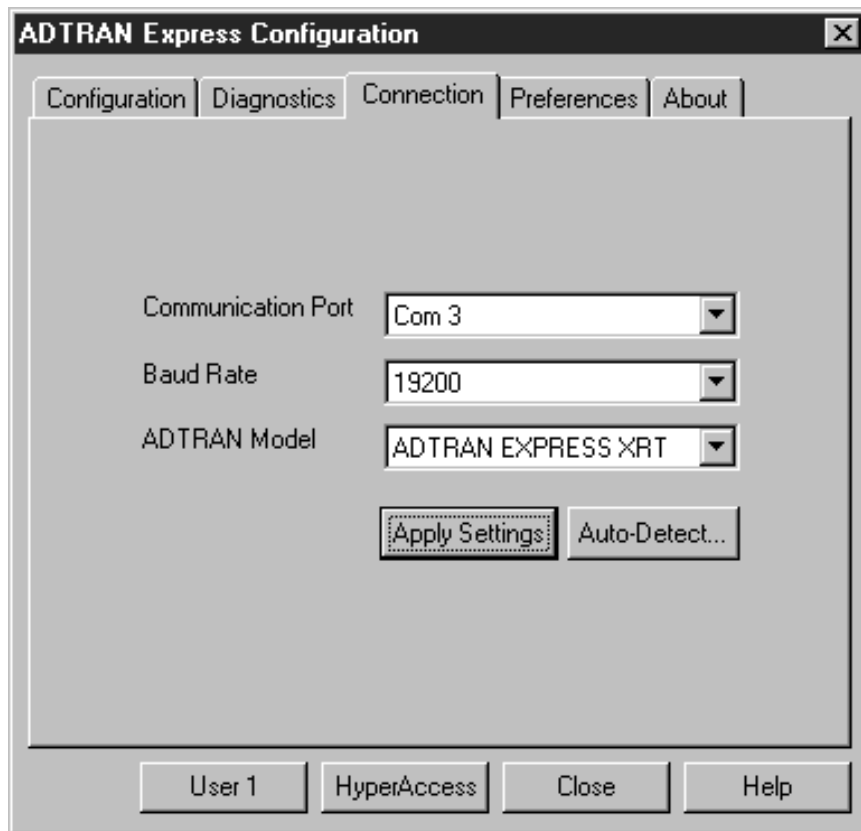

Figure 2-6
3. Select the **Connection** tab. The screen shown in Figure 2-6 is displayed.